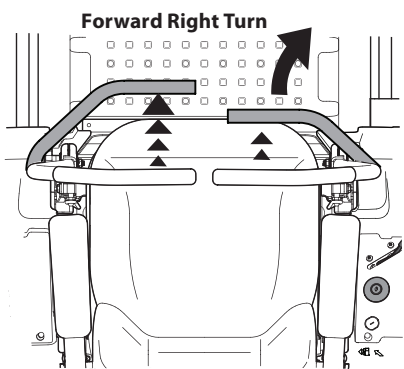

Figure 3-7
2. To turn to the right, move the right drive control lever rearward of the left lever. See Figure 3-7.